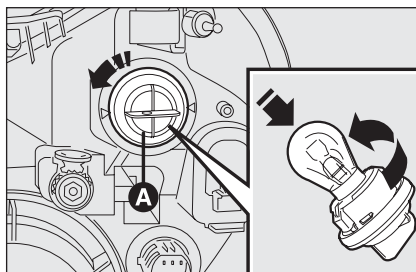

fig. 23
- ☐ turn the bulb holder **A-fig. 23** counterclockwise and remove it;